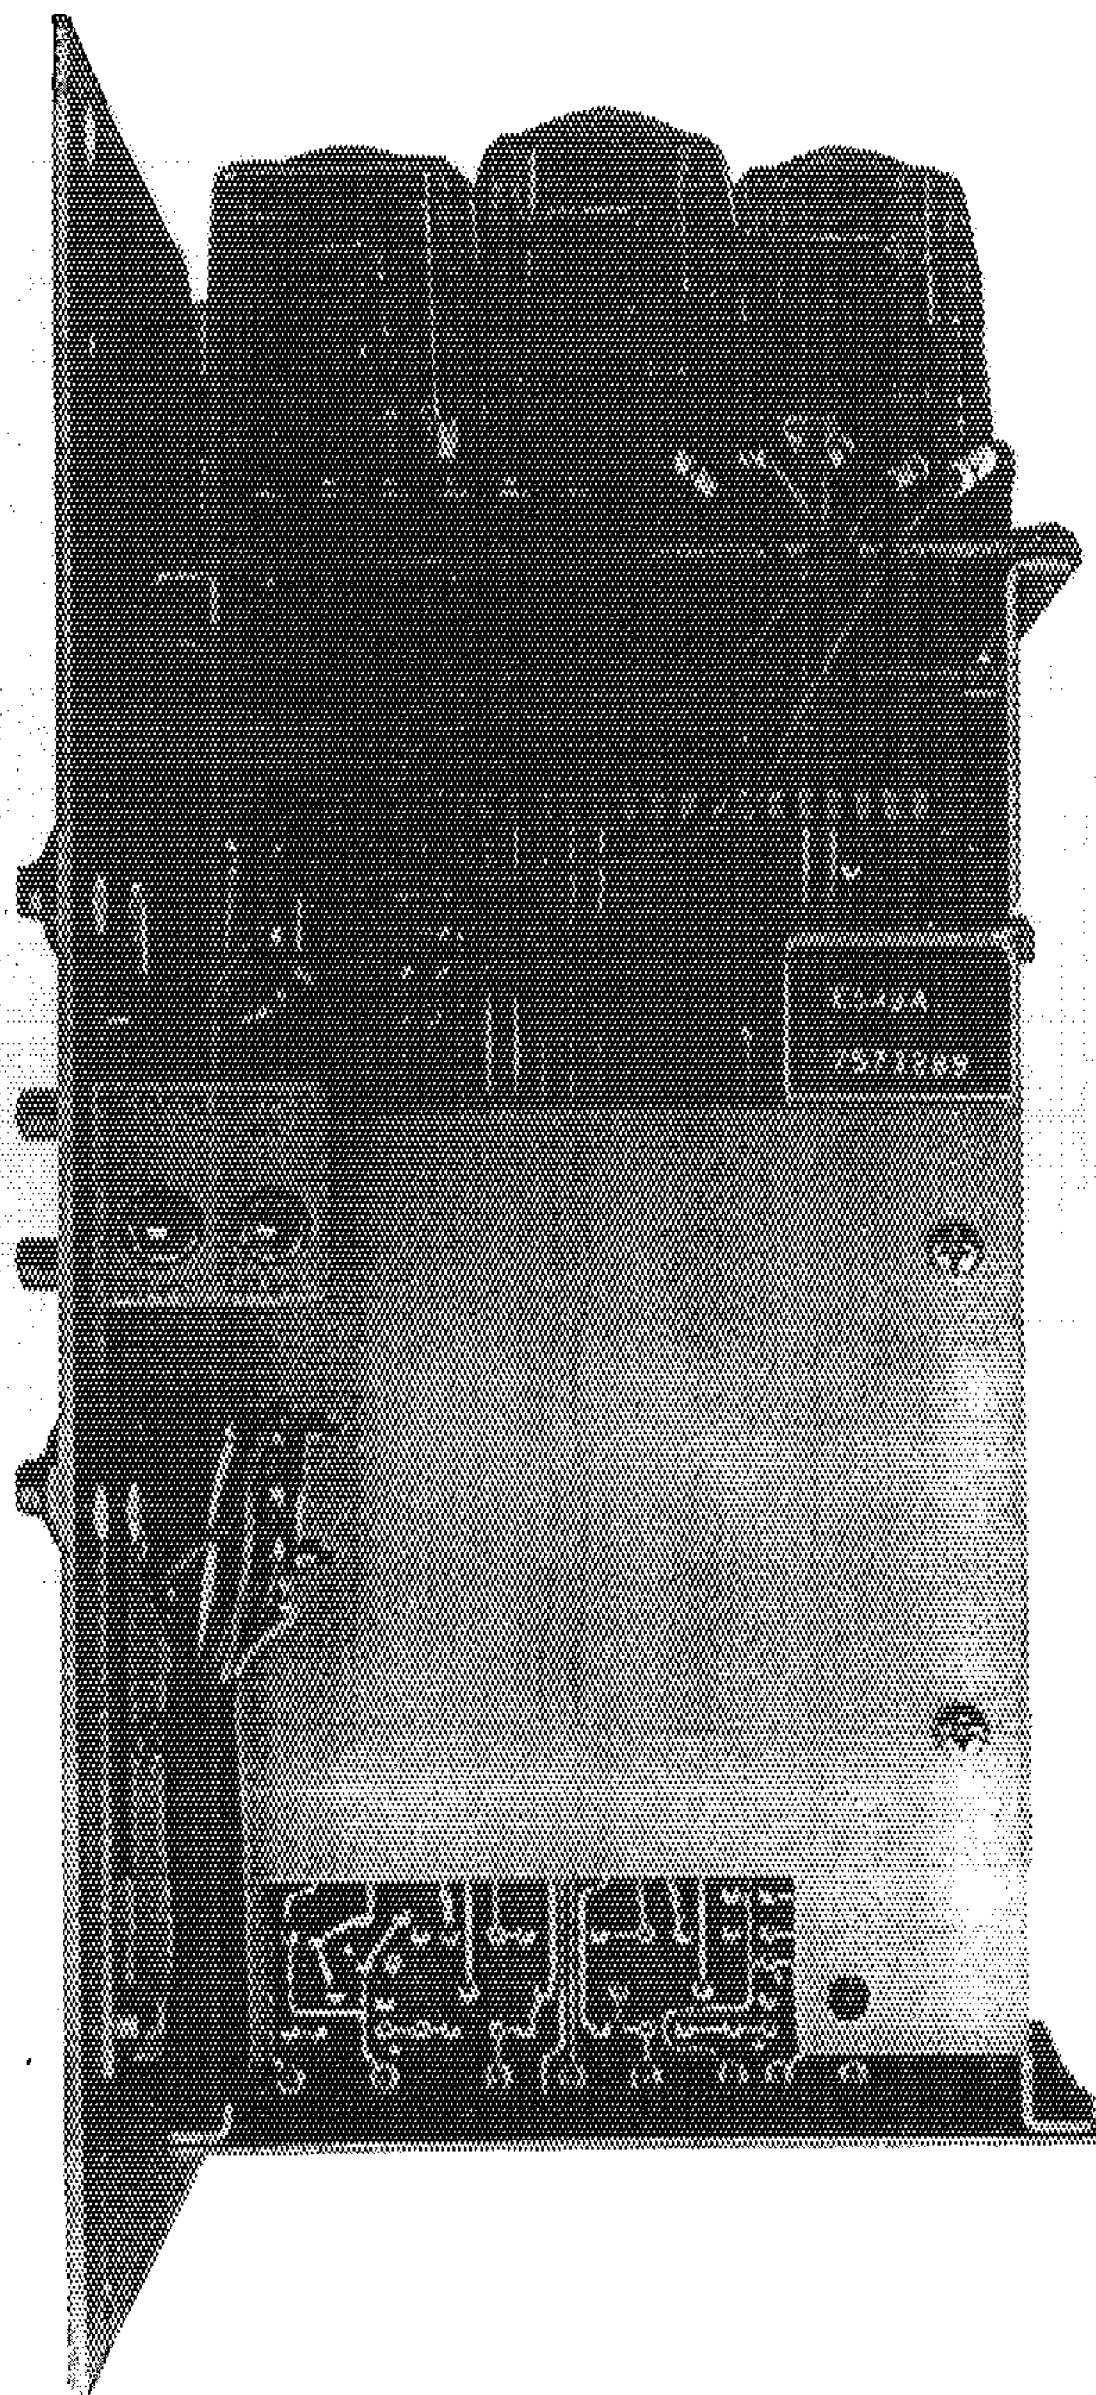

FIG. 4
- Check plug connector from transformer secondary to printed circuit board in position P5 to insure that it is properly connected (Fig. 4), (center, unoccupied connector).